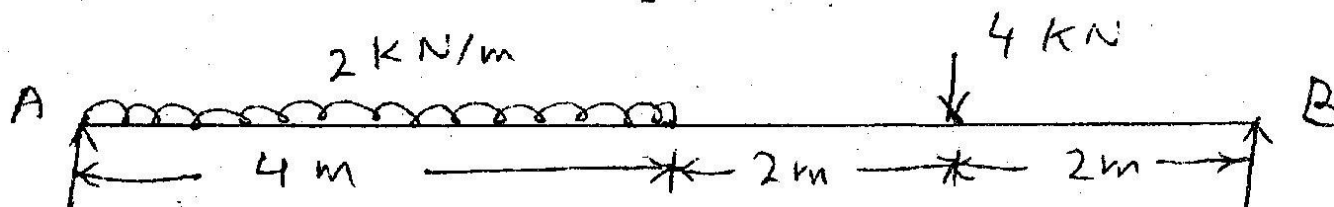

Fig. 4
- (ii) Draw the shear force and bending moment diagrams for a simply supported beam as shown in Fig. 4 below. Calculate the values at the salient points.